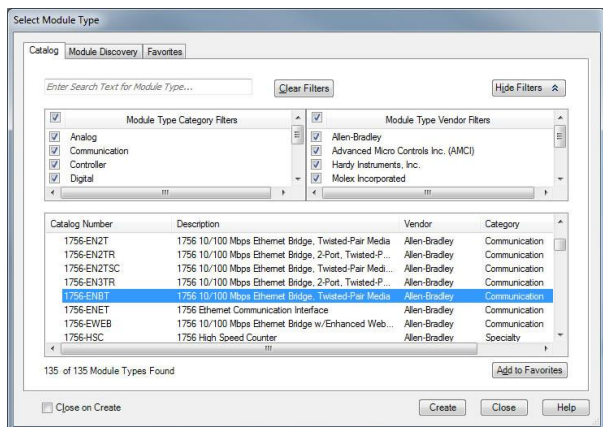

Figure 27: Adding a New Module
- 5) Select the “1756-ENBT/A”, and click “Create”. Refer to Figure 27.